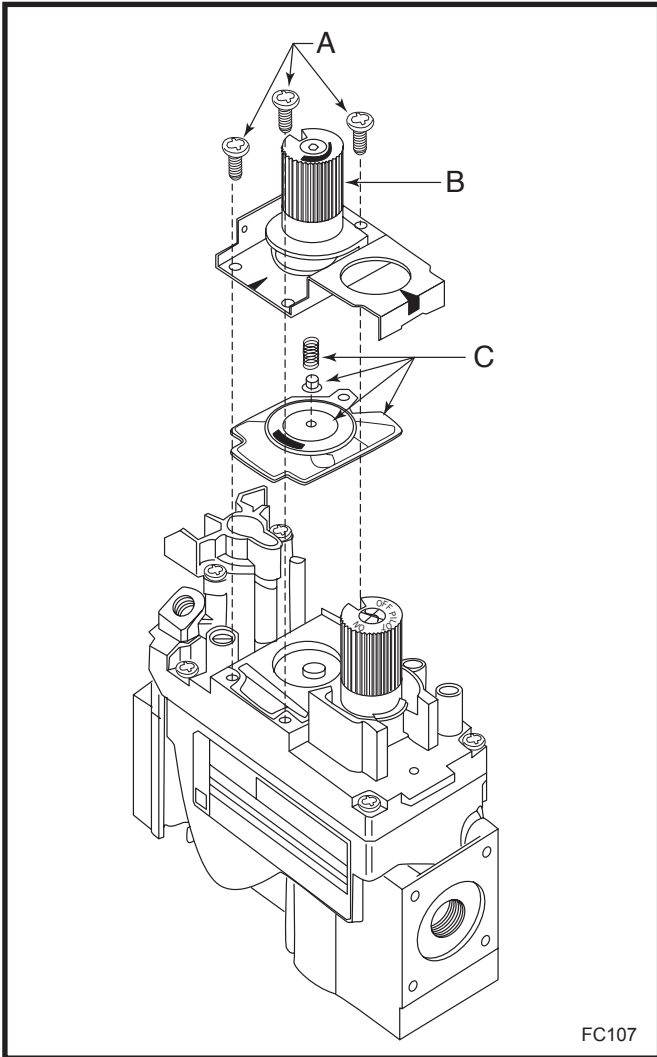

Fig. 55 Remove mounting screws, pressure regulator tower and diaphragm assembly, and discard.
1. Using a Torx T20 bit or slotted screwdriver, remove and discard the three (3) pressure regulator mounting screws (A), pressure regulator tower (B) and diaphragm (C). (Fig. 55)